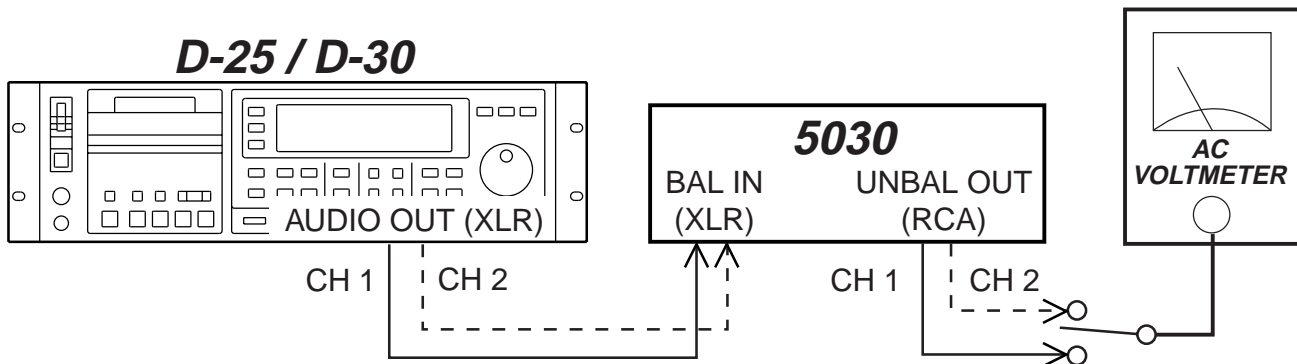

Fig. 1
2. Connect the Model 5030 input (XLR) to the D-25/D-30 audio output CH 1 and CH 2 and an AC volt meter to the Model 5030 (RCA) as shown in Fig. 1.